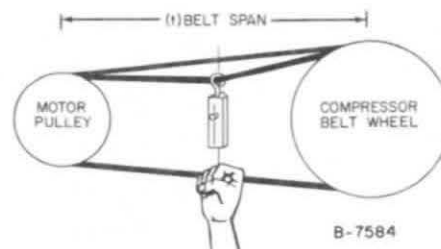

Figure 7-4. Spring Scale Method.
1. Measure the belt span (t) as shown in Figure 7-4.